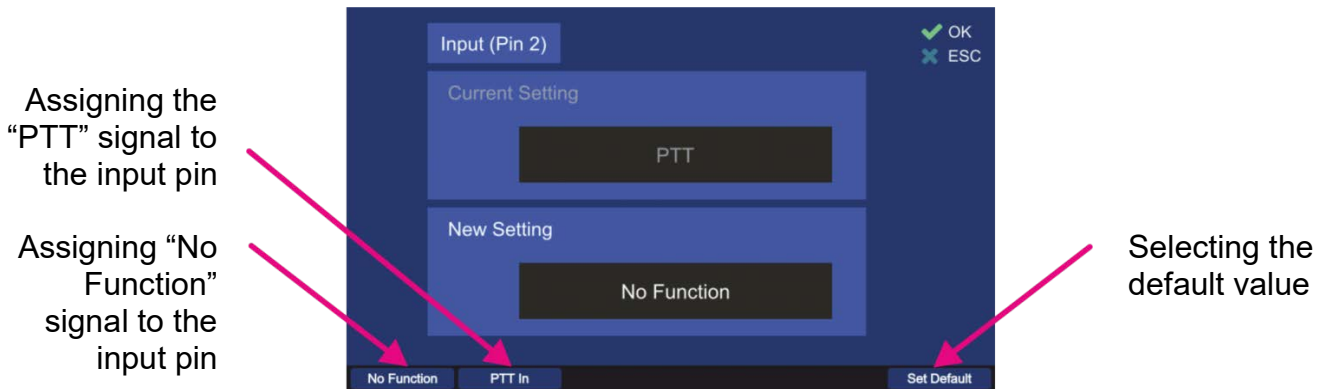

Fig. 160 Assigning a function to the input pin
- Choose the new setting using one of the hotkeys (s. Fig. 160), which will then appear in the “New Setting” field.